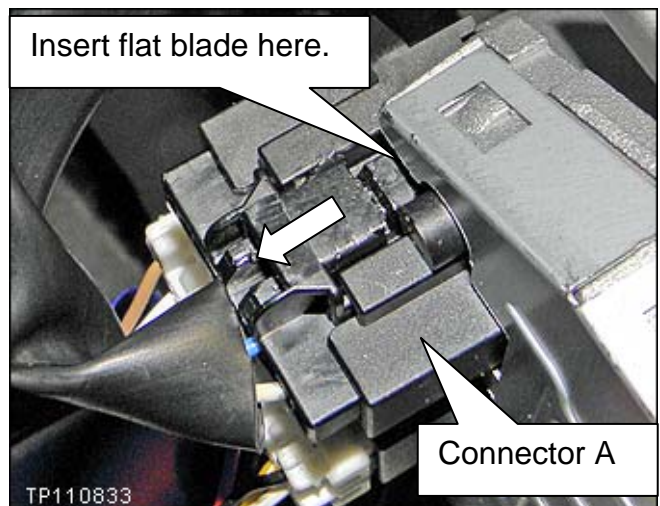

Figure 25
- See Figure 25 for releasing connector A.